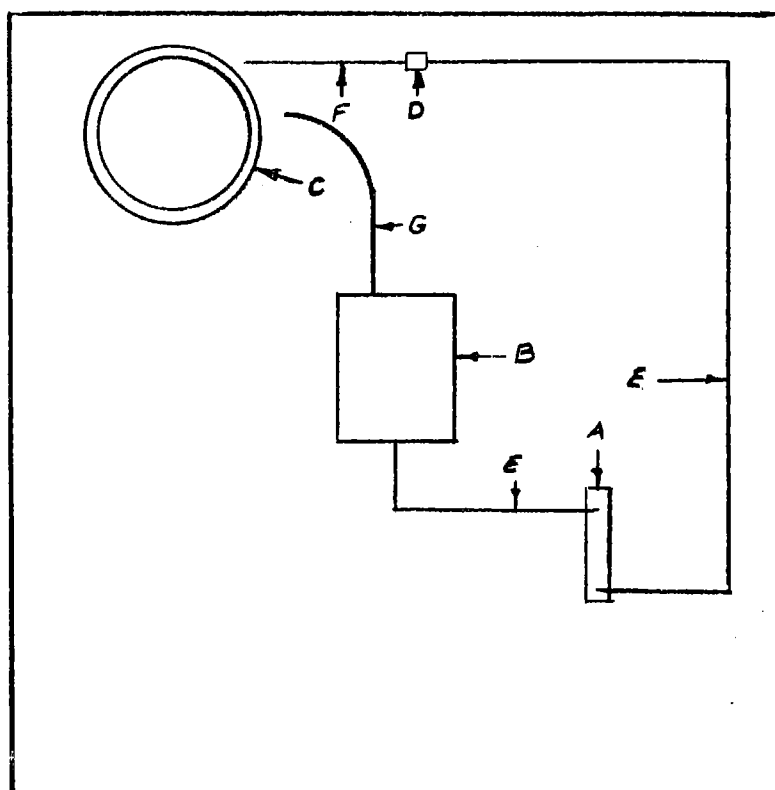

Figure 1
1. Suggested bench bleeder set-up: See Figure 1.